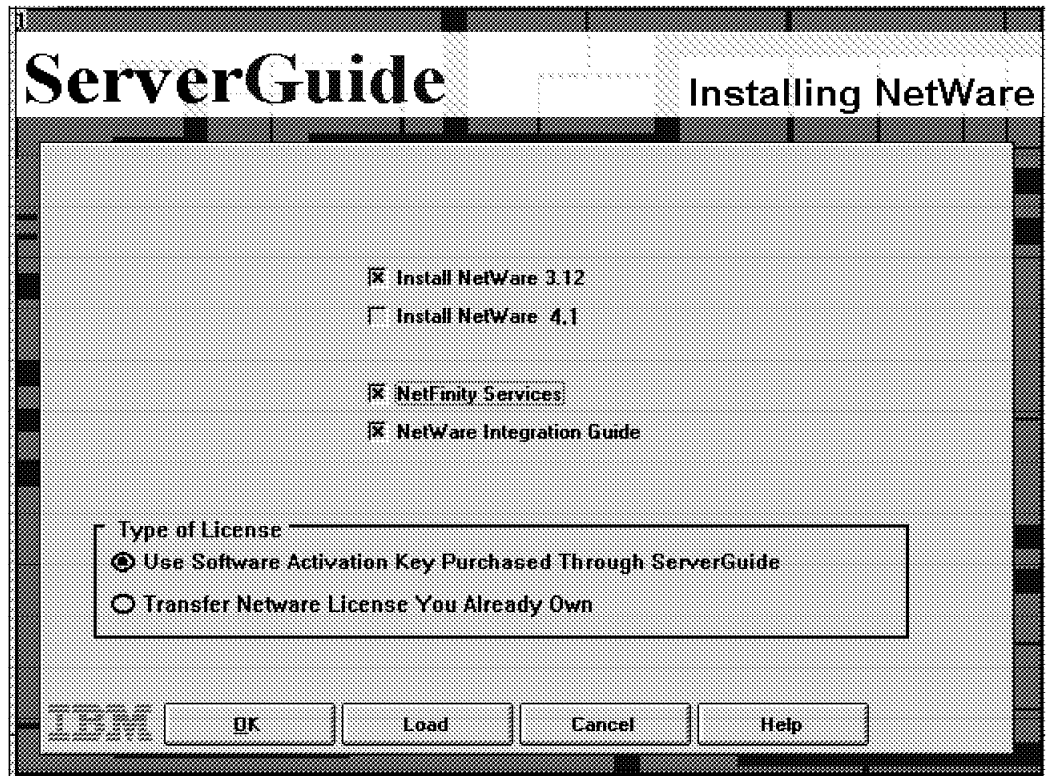
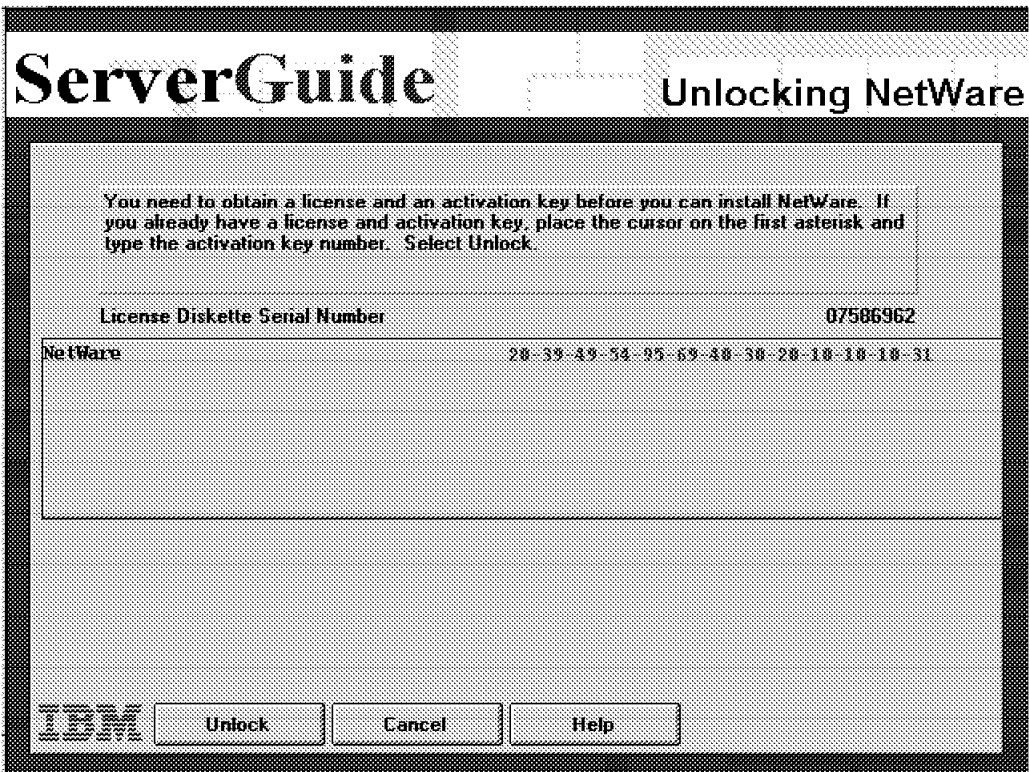

Figure 71. Installing NetWare
Figure 76. Unlocking Programs
12. When the server comes back up, you will see a screen like the one in Figure 76. Enter the activation keys for the NetWare version selected as shown in Figure 71 on page 119.